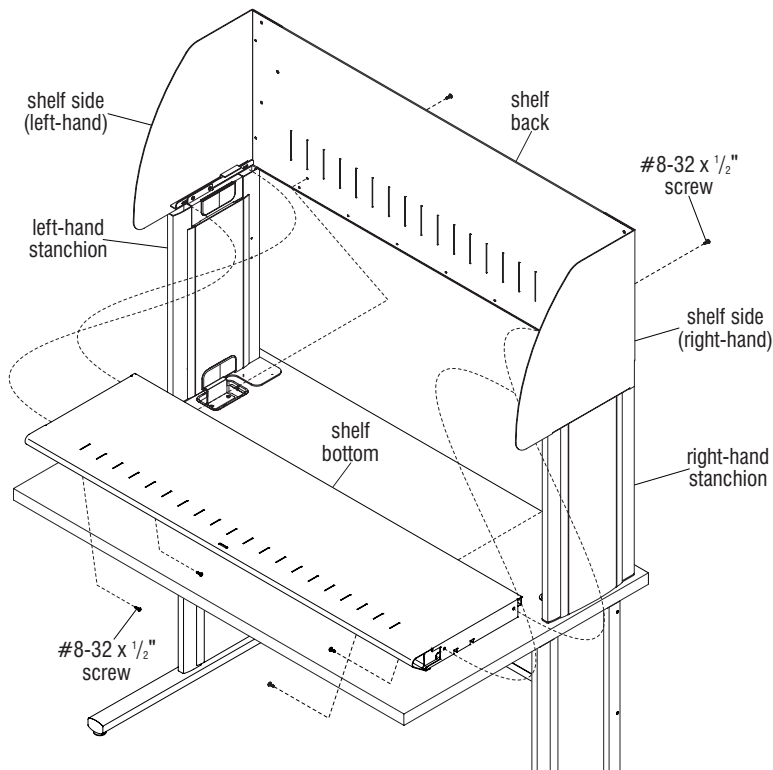

Figure 7
5. Place the shelf bottom into position between the shelf sides, above the lower mounting flanges and tight to the installed shelf back. Nest the bottom shelf down onto both shelf sides lower mounting flanges and align mounting holes. Secure the bottom shelf to the shelf sides from underneath, at each end using two #8-32 x 1/2" screws (Figure 7).
6. At the lower rear of the shelf back, secure the shelf back to the rear edge of the bottom shelf using two #8-32 x 1/2" screws (Figure 7).